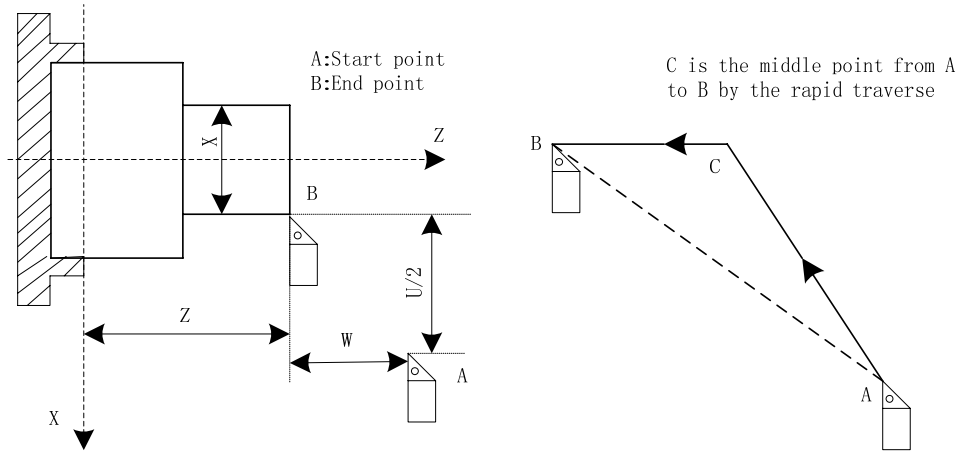

Fig. 3-1
**Command function:** X, Z rapidly traverses at the respective traverse speed to the end points from their starting point. G00 is initial command as Fig.3-1.